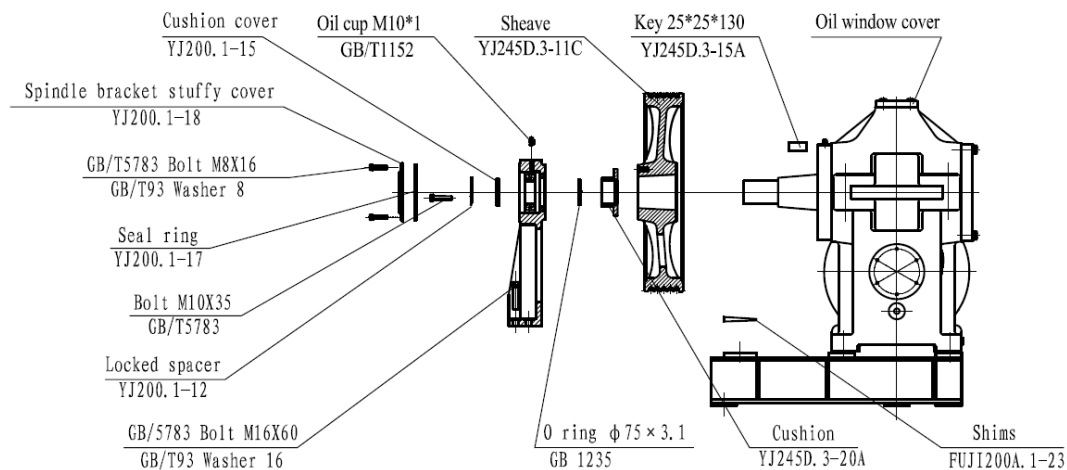

Figure 41 Spindle Bracket Replacement
4. Remove the M8x16 and the washers 8 (6 groups) which fasten the spindle bracket's stuffy cover with an open end wrench (13mm) and remove the stuffy cover. See Figure 41.